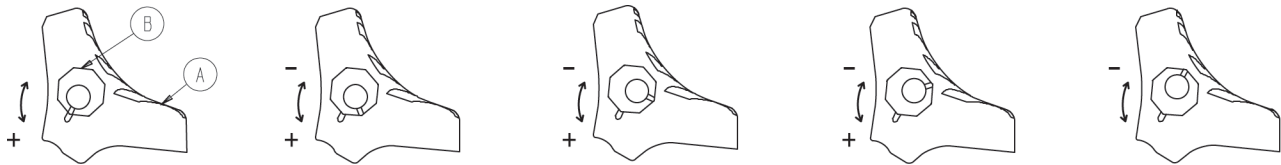

Figure 2 – Wheel locking force adjustment
1. Using the 5/32" hex wrench and 7/16" combination wrench or socket, remove the socket screw from the center of the lock pedal. Save the screw. The wheel lock is initially assembled with the pedal set at the minimum locking force. The marker on the pedal (A) is aligned with the marker on the octagonal sleeve (B) (Figure 2).
2. Remove the octagonal sleeve (B). Rotate the octagonal sleeve counterclockwise to increase the pedal locking force and clockwise to decrease the locking force. Insert the octagonal sleeve into the pedal.